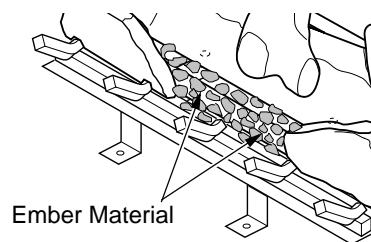

Figure 45 - Placing Ember Material on Burner
8. Pull ember material apart into pieces no larger than a dime. Place these pieces loosely and sparingly directly onto the exposed section of the front burner and along the space between the burner and grate prongs (see Figure 45). This will create the glowing ember appearance as the flame touches the ember material. Do not block air slots by using too much ember material in one area. It is not necessary to use all of the ember material provided.